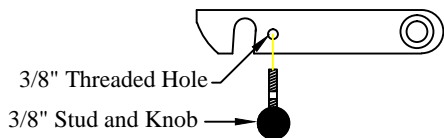

Figure 14: Original Series platform latch knob.
- 1. Install** the two (2) knobs on the platform latches (Original Series only) see (Figure 14).